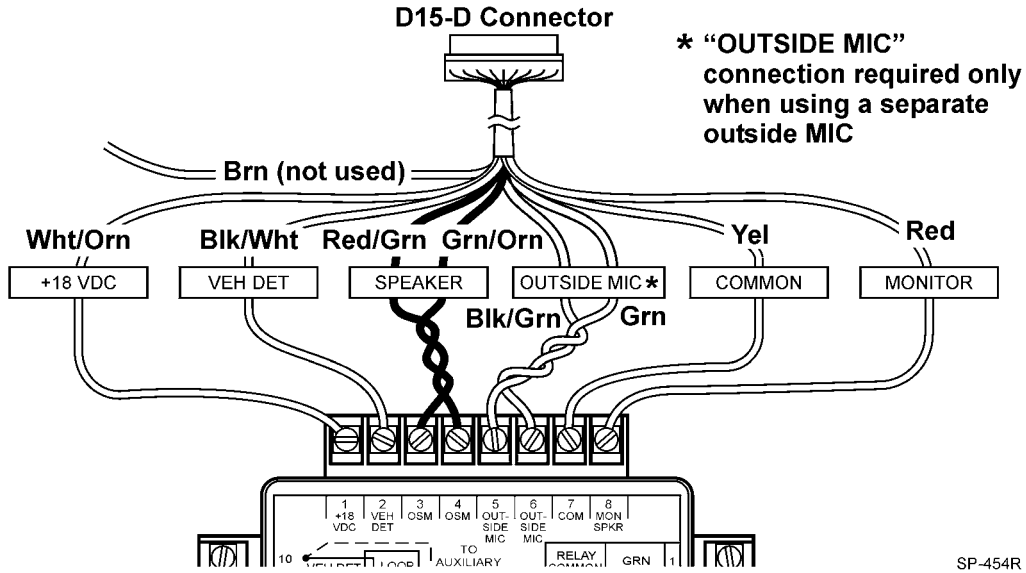
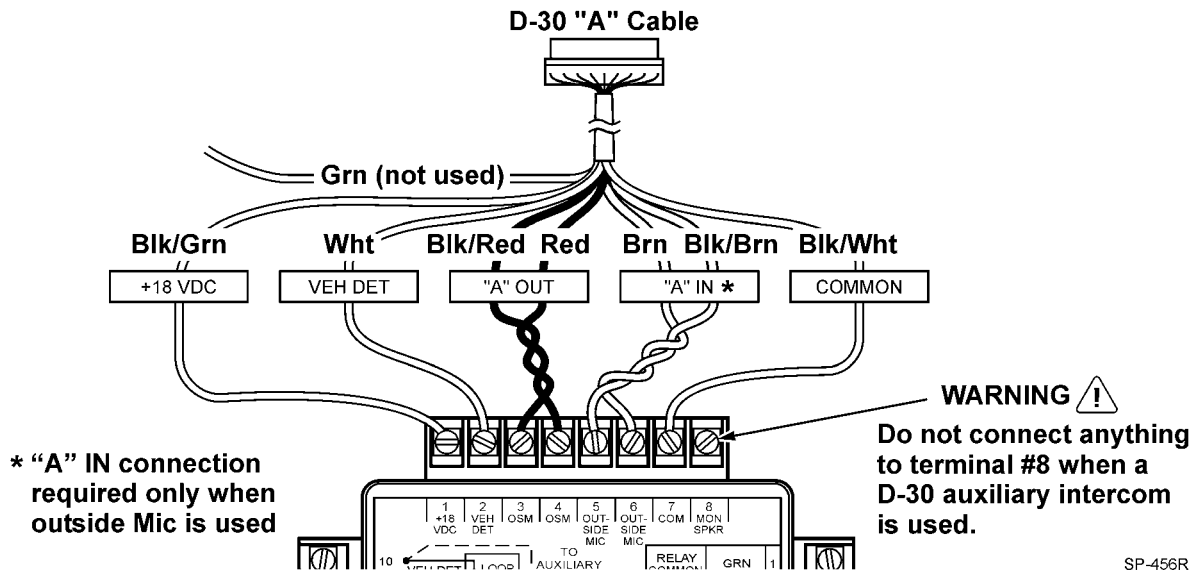

Figure 8. D-15D (M478 DA) Connections
Figure 10. D-30 Connections
1. Connect the auxiliary intercom to the “TO AUXILIARY INTERCOM” terminals on the interconnect module as shown in Figure 8 through Figure 10 (depending on the model of intercom used).